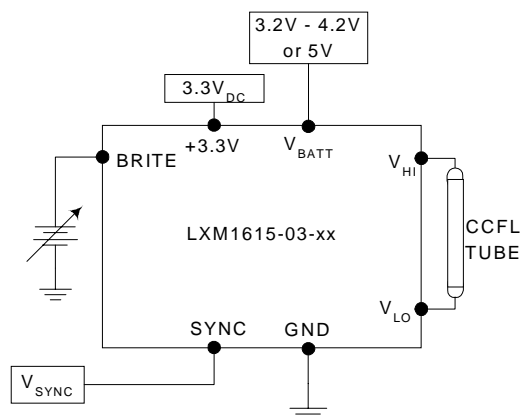
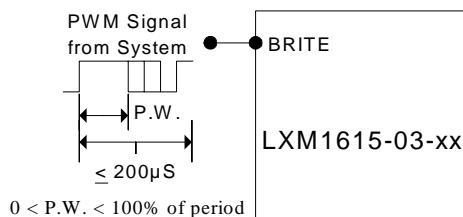

Figure 5 - Brightness Control
Figure 5A - PWM Brightness Control
- The Brightness control may be a voltage output DAC, or other voltage source as shown in Figure 5. A 3.3V Logic Level PWM signal from a micro-controller may also be used as shown in Figure 5A.